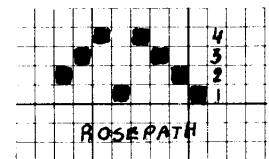

Fig. 2
2. BOUNDWEAVE ON ROSEPATH. The short length of Rosepath threading repeat (Fig. 2), makes for a busy pattern when done in boundweave. Generally this is done on opposites (see variation number 4) and in few colors. It is especially popular in Sweden. Rosepath and other point twills are very suited for the Indian Saddle Blanket weave mentioned before. Figures are often woven on Rosepath and point twill drafts using the 3/1 twill tie-up.